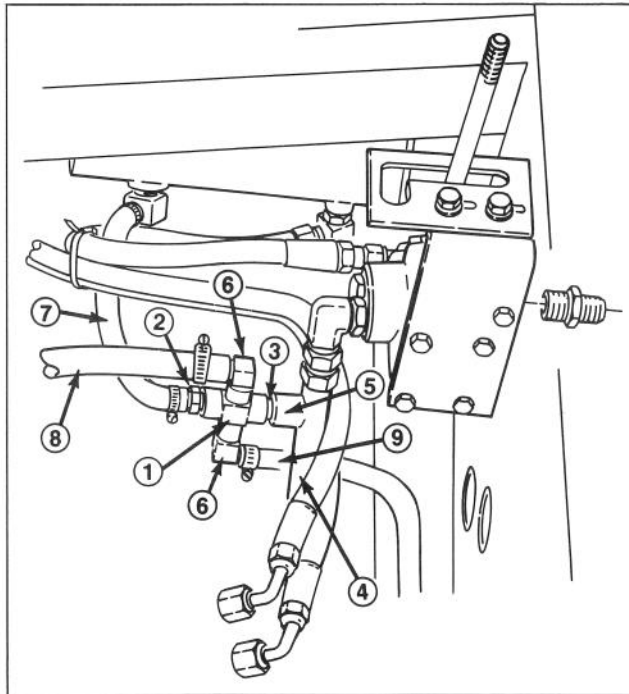

Figure 14
19. Thread the original main lift valve barbed fitting into the end of the cross fitting (Fig. 14) and thread the male to male adapter plus cross into the end of the main deck lift valve manifold stub (Fig. 14).
Install a new 90° barbed fitting into the top port on the cross and a new 90° barbed fitting into the bottom port on the cross (Fig. 14). Tighten all these fittings.
20. Connect the return line from the main deck lift cylinder to the center barbed fitting of the assembled cross (Fig. 14). Connect the return line from the wing cylinders to the top 90° barbed fitting on the cross (Fig. 14).
21. Connect the shorter (10.5 inch) 1/4 inch ID hydraulic hose to bottom of two lever wing lift valve (port labeled "out") (Fig. 8). Route and connect the other end to the 90° elbow barbed fitting on the bottom of the cross (Fig. 14).